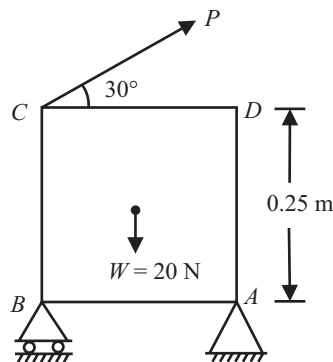

Fig 8.20
- Q. 7:** A square block of 25cm side and weighing 20N is hinged at A and rests on rollers at B as shown in fig 8.20. It is pulled by a string attached at C and inclined at 30° with the horizontal. Make calculations for the force P to be applied so that the block gets just lifted off the roller.